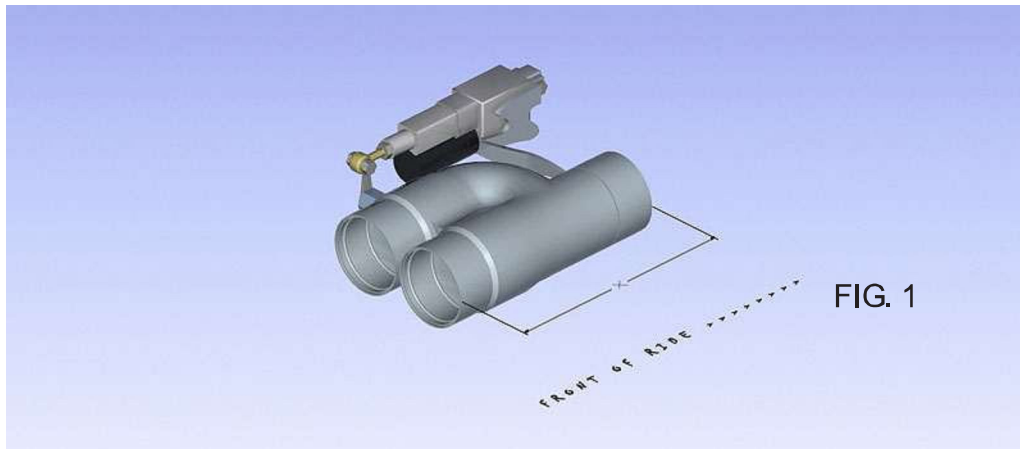
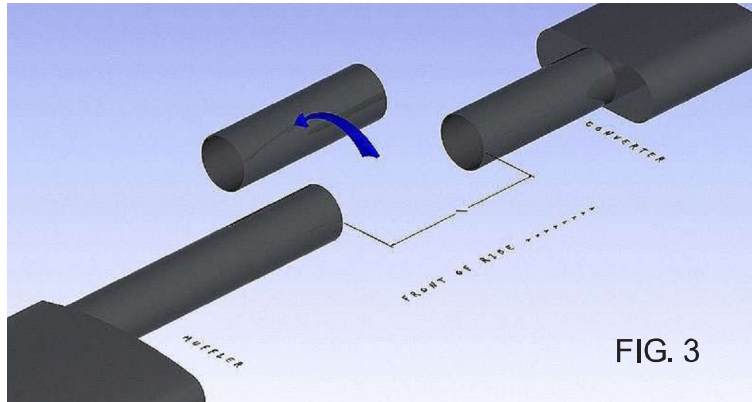

FIG. 1
FIG. 3
**STEP 2-** DETERMINE TOTAL LENGTH OF DIVERTER "X" (SEE Fig. 1) WRITE THIS NUMBER DOWN. ALSO TAKE NOTE OF THE WIDTH AS WELL FOR DETERMINING PROPER PLACEMENT OF DIVERTER.
**STEP 4-** ONCE LOCATION IS ESTABLISHED- CUT SECTION OF PIPE OUT AT LENGTH FROM Fig. 1 (SEE Fig 3) AND SAVE THIS PIECE NOWEEDS CAN BE TAKEN OUT AT A LATER TIME AND THIS PIECE OF PIPE CAN BE REUSED.